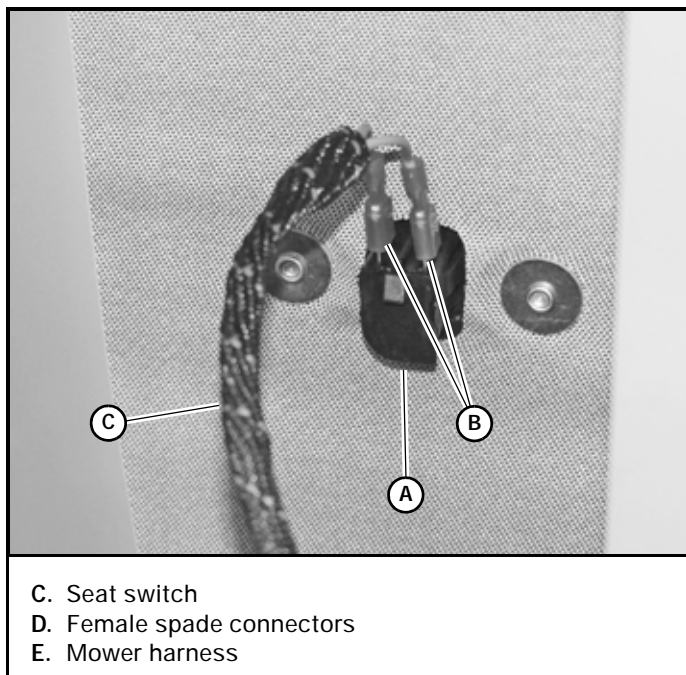

Figure 4-25
3. Raise the seat platform and disconnect the mower harness from the seat switch. Bypass the seat switch by connecting the two mower harness female spade connectors together. Figure 4-25